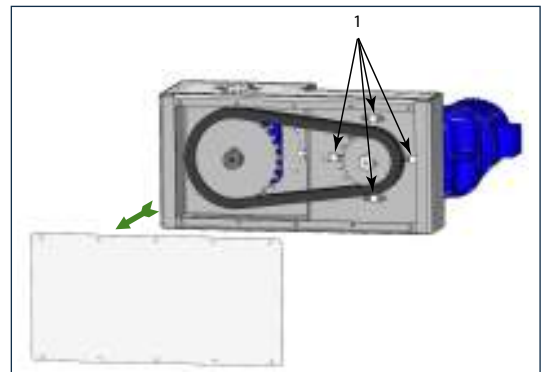

Fig. 2
A correct tensioning consist in tensioning one side of the chain, checking that the deflection angle of the unstressed side of the chain it is equal to +/- 2% of the distance between centers length (to this purpose see the annexed fig. 2).
- take off the carter (fig.2)
- loosen the fixing bolts (1) of the structure reduction (Fig. 2)